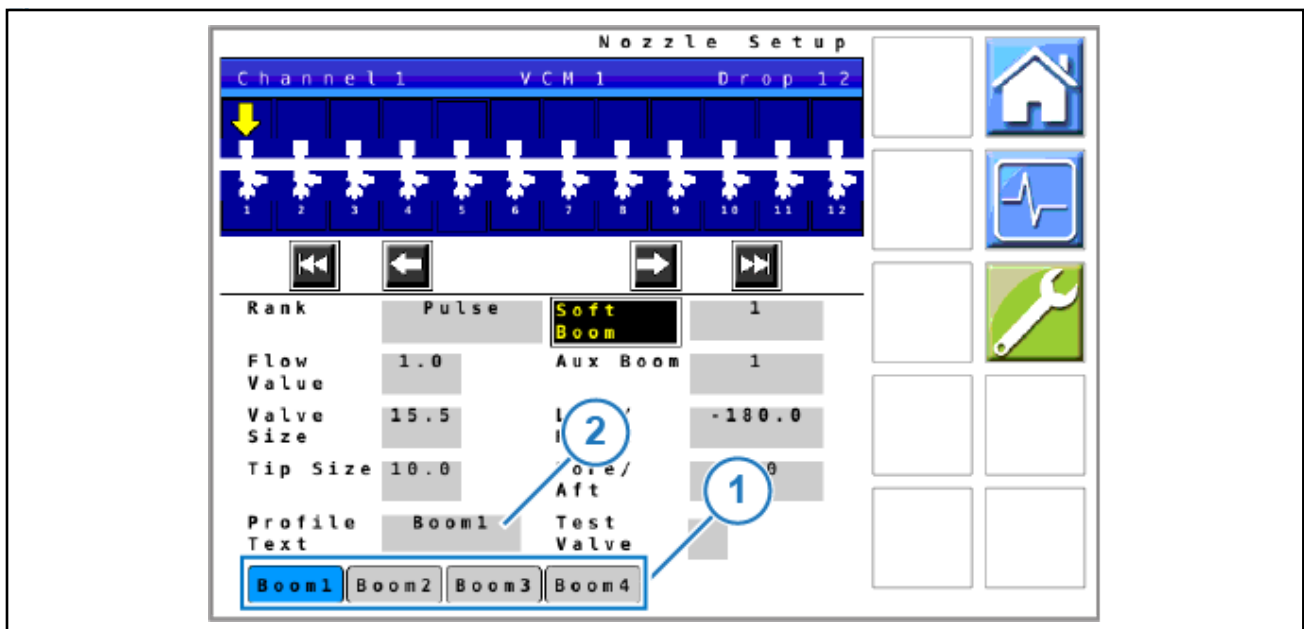

Figure 21: Profile Names on Nozzle Setup Screen
2. At the bottom of the screen, select the desired Profile name (Figure 21, Item 1).
3. Select the box (Figure 21, Item 2) next to **Profile Text**.